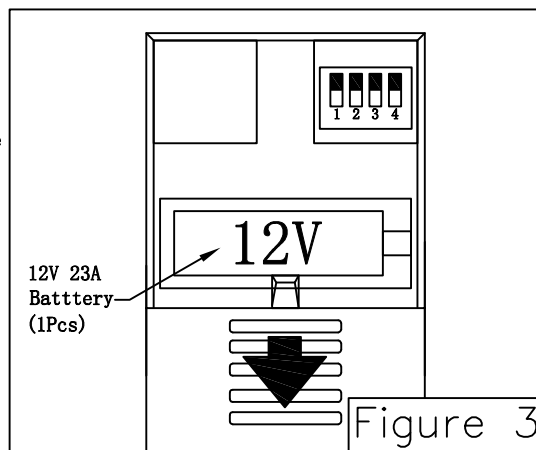

Figure 3
- To make fan operational, install 23A/12V battery (included) in hand-held remote transmitter, with fan power off. Then follow the remote code setting process. (If not used for long periods of time, remove battery to prevent damage to transmitter). Store the remote away from excessive heat or humidity. (Figure 3)